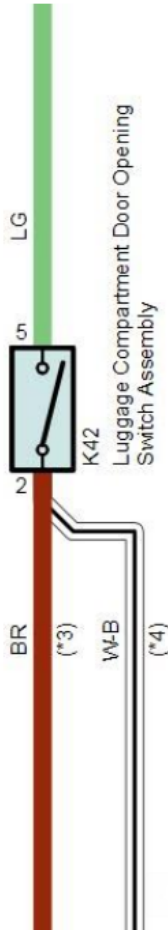

Figure 36a
39. Using a black T-Tap connect the **Black** wire of the foot-well power harness to the **Black & White** wire in **PIN 2** of **K42** connector at the luggage compartment opening switch. Figure 36a, 36b. & 37c.